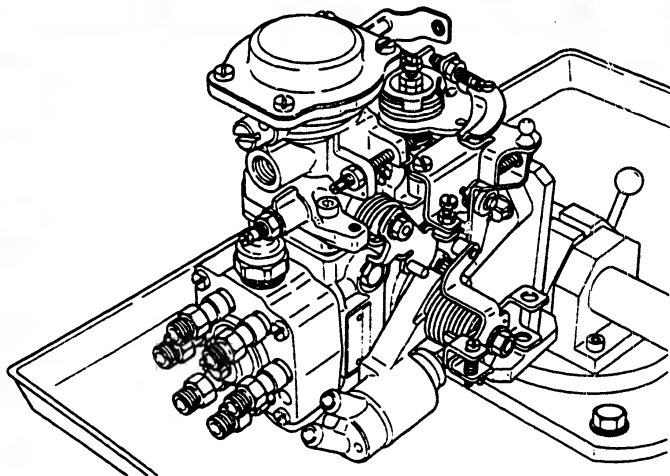

Fig. 55 Attaching the injection pump to the brackets
1. Attach the injection pump to the bracket (KDEP 2963) using the bolts. (Fig. 55)
3. Remove the nut (75) fixing the control lever (72) and the spring washer (73).